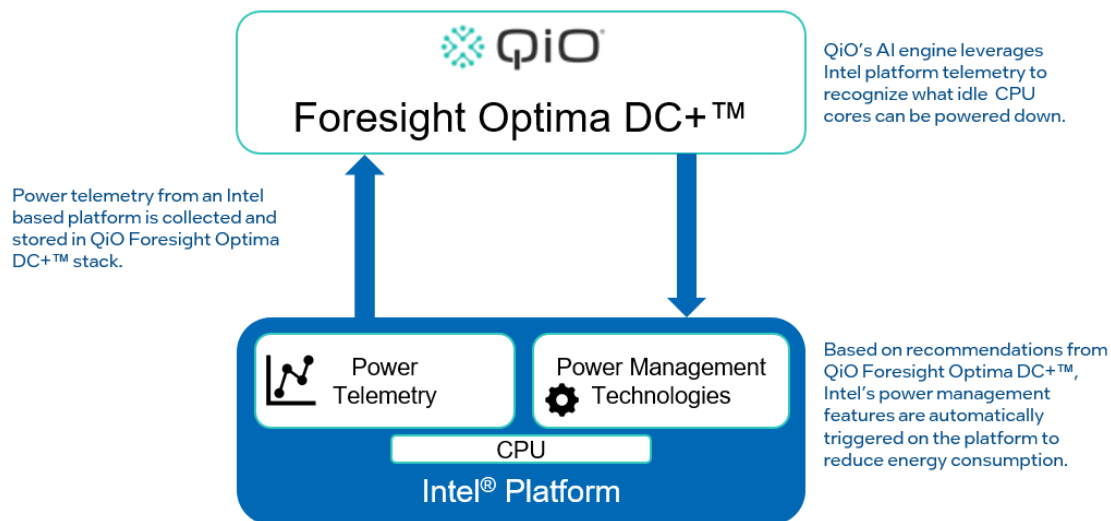

Figure 1. High-level Overview of Solution
Foresight Optima DC+™ is the focus of this paper. It augments CPU-level optimization by leveraging Intel's platform telemetry and suite of CPU power management technologies and the Artificial Intelligence (AI) capabilities of Foresight Optima DC+™, specifically its multi-variate, multi-objective optimization algorithms, to intelligently learn server power usage patterns and propose (open loop) or automatically trigger (closed loop) actions to adjust power consumption to meet the needs of the server workloads more efficiently, without compromising operations or quality of service. See Figure 1.